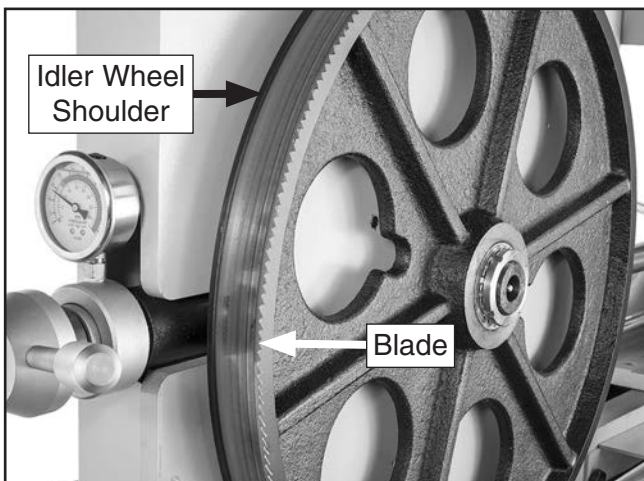

Figure 104. Blade tracking properly against idler wheel shoulder.
- Use hand to turn blade around wheels and watch how blade tracks around idler wheel and on idler wheel shoulder, then stop blade movement (see **Figure 104**).